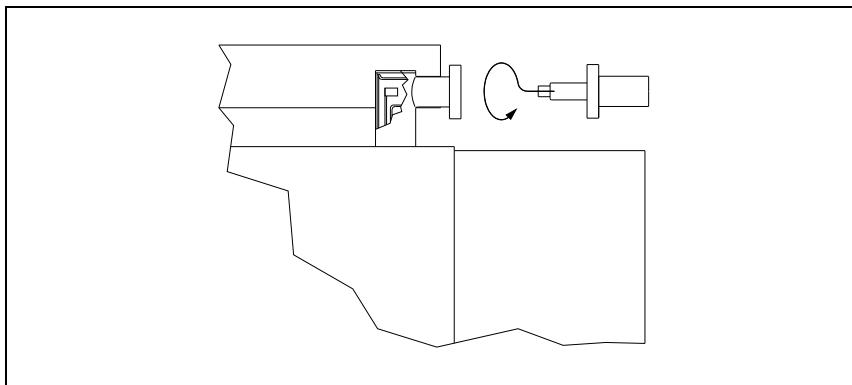

Figure 23 High voltage feedthrough connection
- 1 Remove the 6 bolts of the Mini-ConFlat flange connection (see Fig. 23).